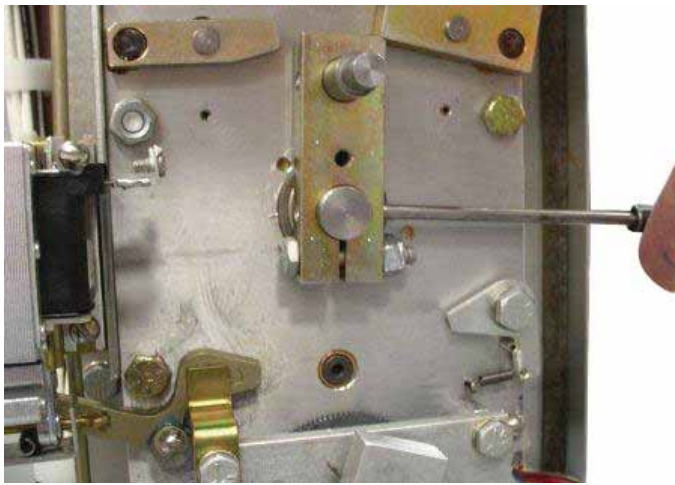

Figure 15.
- h. Place the new crank lever assembly on the shaft in the same orientation as the lever removed. Use a hammer and punch to drive the roll pin through the lever and shaft until it sits flush with the crank lever at both ends. Refer to Figure 15.